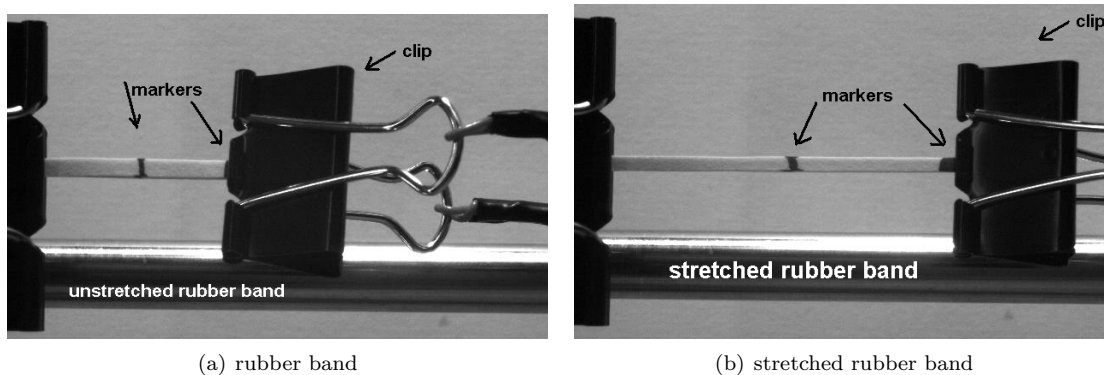

Figure 6: Samples
2. Make sure to draw two horizontal lines close to the ends of the rubber band (they should end up close to the point where the binder clips attach to the sample later) with a permanent marker before you mount the band (see Fig.6). This line will be your reference for all your elongation measurements. Attach the rubber band or chicken skin band to the clip. Make sure it is positioned straight in the horizontal position. Put it into the binder clip far enough so it cannot slide out easily and that your upper reference line is still visible, but close to the clip.